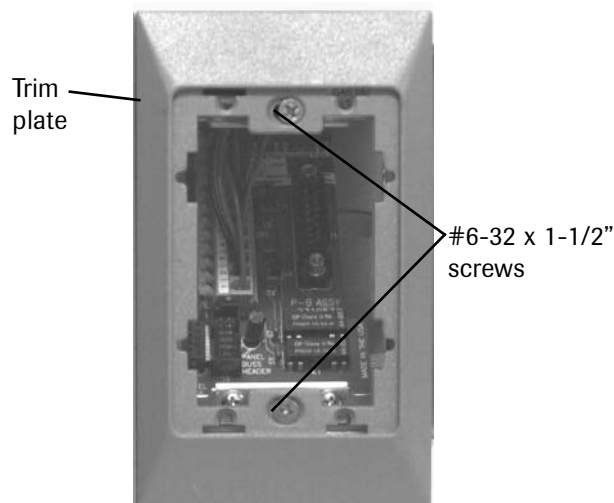

Figure 18
1. Install trim plate using (2) #6-32 x 1-1/2" screws. **Do not tighten.** Refer to **Figure 18**.